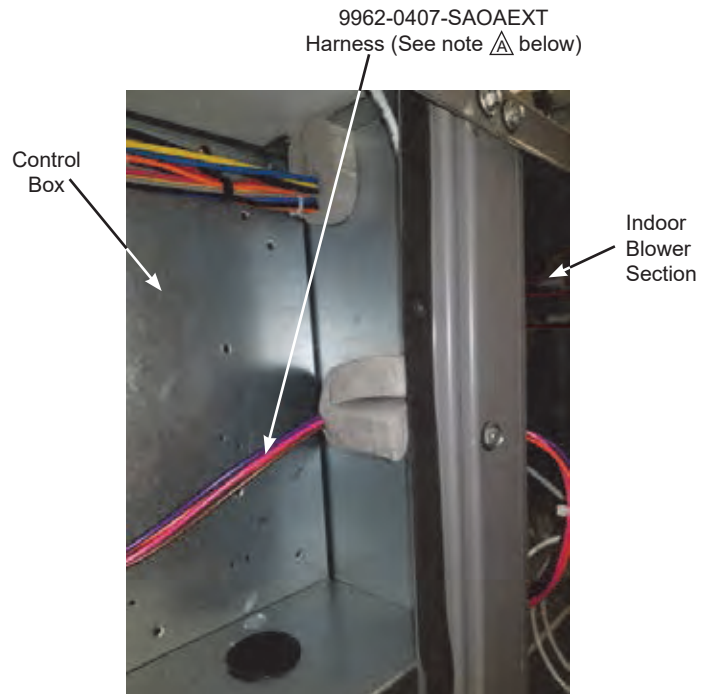

Figure 22 – Route 9962-0407-SAOAEXT Harness to Indoor Blower Section (See note  below)
Step 32: Route the 4-wire 9962-0407-SAOAEXT harness through the divider between the control box and the indoor blower section. See Figure 22. Important - See note  below.